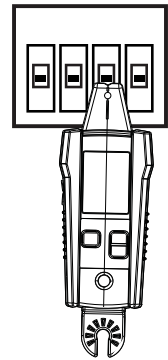

Figure 3.2b
2. Align the groove on the Tip Sensor with the breaker/fuse lengthwise (See figure 3.2b).